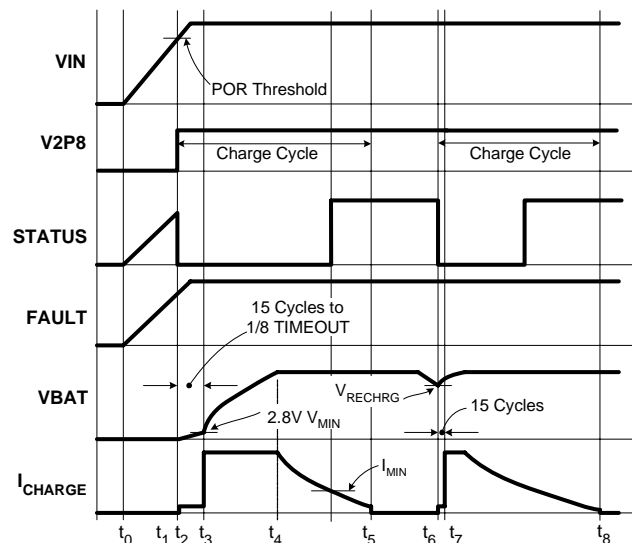

FIGURE 19. OPERATION WAVEFORMS
Figure 19 illustrates the typical signal waveforms for the linear charger from the power-up to a recharge cycle. More detailed Applications Information is given below.
The ISL6292 resets itself as the input voltage rises above the POR rising threshold. The V2P8 pin outputs a 2.8V voltage, the internal oscillator starts to oscillate, the internal timer is reset, and the charger begins to charge the battery. The two indication pins, STATUS and FAULT, indicate a LOW and a HIGH logic signal respectively. Figure 19 illustrates the start up of the charger between t_0 to t_2 .
A charge cycle consists of three charge modes: trickle mode, constant current (CC) mode, and constant voltage (CV) mode. The charge cycle always starts with the trickle mode until the battery voltage stays above V_{MIN} (2.8V typical) for 15 consecutive cycles of the internal oscillator. If the battery voltage drops below V_{MIN} during the 15 cycles, the 15-cycle counter is reset and the charger stays in the trickle mode. The charger moves to the CC mode after verifying the battery voltage. As the battery-pack terminal voltage rises to the final charge voltage V_{CH} , the CV mode begins. The terminal voltage is regulated at the constant V_{CH} in the CV mode and the charge current is expected to decline. After the charge current drops below I_{MIN} (programmable for the 4x4 and 5X5 package and programmed to 1/10 of I_{REF} for the 3x3 package, see End-of-Charge Current for more detail), the ISL6292 indicates the end-of-charge (EOC) with the STATUS pin. The charging actually does not terminate until the internal timer completes its length of TIMEOUT in order to bring the battery to its full capacity. Signals in a charge cycle are illustrated in Figure 19 between points t_2 to t_5 .
After a charge cycle completes, charging is prohibited until the battery voltage drops to a recharge threshold, V_{RECHRG} (see Electrical Specifications). Then a new charge cycle starts at point t_6 and ends at point t_8 , as shown in Figure 19. The safety timer is reset at t_6 .
The trickle mode charge has a time limit of 1/8 TIMEOUT. If the battery voltage does not reach V_{MIN} within this limit, a TIMEOUT fault is issued and the charger latches up. The charger stays in trickle mode for at least 15 cycles of the internal oscillator and, at most, 1/8 of TIMEOUT, as shown in Figure 19.
The end-of-charge current I_{MIN} sets the level at which the charger starts to indicate the end of the charge with the STATUS pin, as shown in Figure 19. The charger actually does not terminate charging until the end of the TIMEOUT, as described in the Total Charge Time section. The I_{MIN} is set in two ways, by connecting a resistor between the IMIN pin and ground, or by connecting the IMIN pin to the V2P8 pin. When programming with the resistor, the I_{MIN} is set in the equation below.